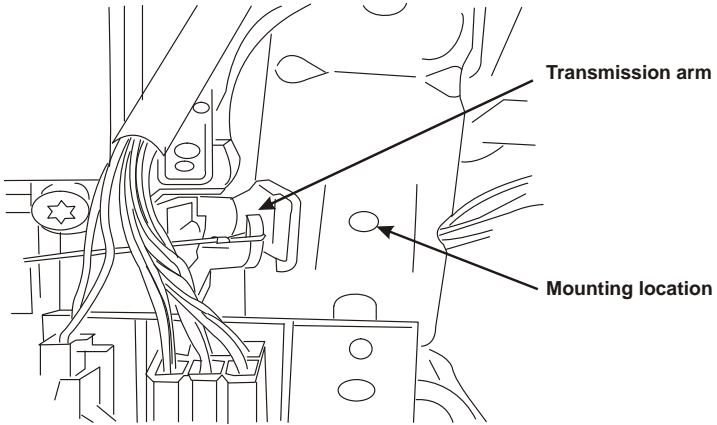

Figure 4.12
- Mount the magnetic switch under the dash on the support near the transmission arm (Figure 4.12). Using a 1/2 inch socket wrench, install and remove the screw for the magnetic switch bracket in the hole to tap threads in the hole.